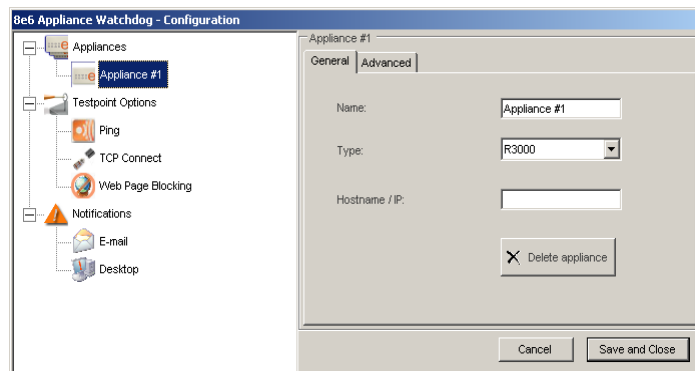

Fig. 1:3-2 Configuration window, add a new appliance
1. In the open Configuration window, click the **Add a new appliance** button in the Appliances frame (see Fig. 1:3-1) to display the Appliance #1 frame in the right panel: